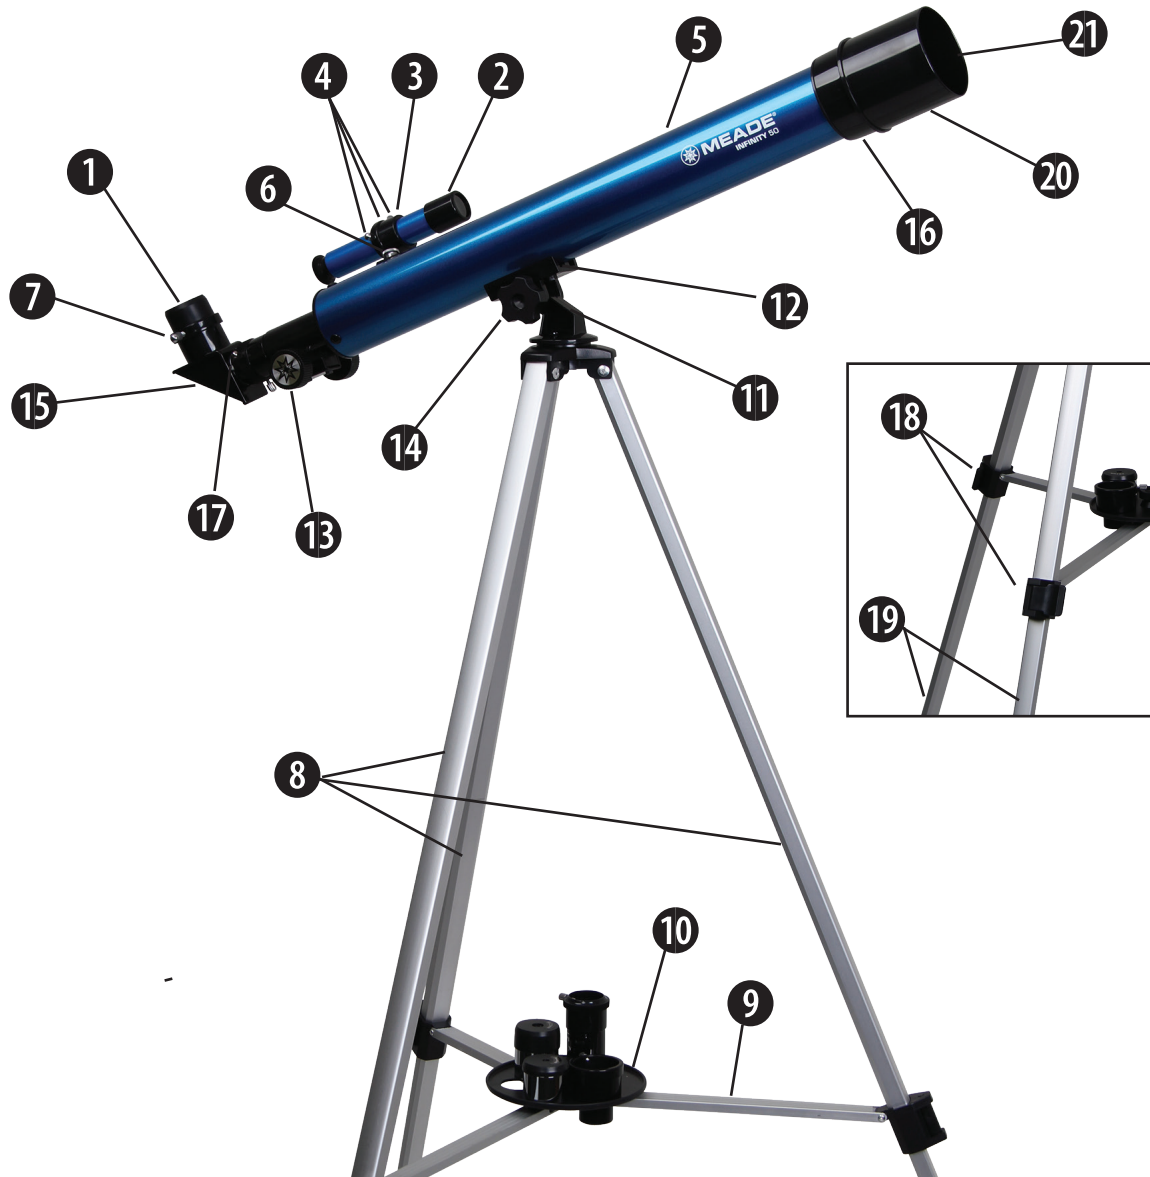

Fig. 1: Meade 50AZ-P 2" Alt-azimuth Refracting Telescope
STANDARD EQUIPMENT (Refer to Fig. 1)
2. Spread the three tripod legs (8, Fig. 1) evenly apart and attach the accessory tray (10, Fig. 1) in the hole at the center of the leg brace supports (9, Fig. 1) using the provided attaching screw.
3. Attach the optical tube to the mount by placing the optical tube mounting plate (12, Fig. 1) over the top of the mount until the mounting holes line up. Place the optical-tube-to-mount lock knob (14, Fig. 1) through the mounting holes and tighten until snug.
4. Attach the viewfinder (2, Fig. 1) and viewfinder bracket (3, Fig. 1) by un-threading the two viewfinder bracket attaching nuts (6, Fig. 1) and placing the viewfinder bracket (with the eyepiece-end of the viewfinder facing the focuser of the telescope) over the two protruding threaded studs. Then replace the two viewfinder bracket attaching nuts to secure the bracket to the optical tube.
5. Insert the diagonal mirror (15, Fig. 1) into the eyepiece holder (17, Fig. 1) and the H 20mm eyepiece (1, Fig. 1) into the diagonal mirror. Secure each in place with a moderate tightening of their respective thumbscrews (7 & 17, Fig. 1).
6. Extend the sliding leg extension (19, Fig. 1) portion of the tripod to the desired length on all three legs by opening the tripod leg lock latch (18, Fig. 1) and extending the leg. When you achieve the desired height, lock the tripod leg by closing the locking latch.
The telescope can tilt just over 90° in altitude (the up-and-down movement) and rotate 360° in azimuth (the side-to-side movement), hence the telescope mount is called "Alt-azimuth". The Alt-azimuth mount can be locked only in altitude by tightening the optical-tube-to-mount locking knob (14 Fig 1), the azimuth movement is always free.
To move the telescope on the mount, slightly loosen the mount locking knob (14, Fig. 1). Move the telescope in altitude and/or azimuth to the desired target. When finished, tighten the mount lock knob (14, Fig. 1). Tip: By keeping the mount lock knob slightly tight, the telescope can still be moved in altitude without running the risk of having the telescope “flip” in the up or down movement.
The 5 x 24mm viewfinder (2, Fig. 1) is a low-power, wide-field sighting device that, once aligned, will allow you to point the telescope with greater precision. Take note that when you look through the viewfinder, you will see a cross-hair with images that will be upside-down; this is normal.
1. Remove the lens cap (21, Fig. 1) of the optical tube assembly. Place the H 20mm eyepiece in the diagonal mirror and point the optical tube assembly (5, Fig. 1) at some well-defined, distant land object (e.g. the top of a distant telephone pole). Note: Images are either backwards or upside-down, depending on the rotation angle of the diagonal mirror; this is normal. It is recommended that you choose an object that is as distant as possible, so that the viewfinder alignment will be accurate enough to point the telescope at individual planets and stars during astronomical observations.
2. Look through the viewfinder (2, Fig. 1) and tighten or loosen, as appropriate, the viewfinder bracket’s three collimation screws (4, Fig. 1), until the cross-hairs of the viewfinder are precisely centered on the same object already centered in the telescope’s H 20mm eyepiece. When finished, tighten the viewfinder’s three collimation screws to a firm feel so that it remains in alignment. It is often easier to tighten one collimation screw while simultaneously loosening another. This will keep the viewfinder tight in its holder.
2. To center an object in the main telescope, first use the aligned viewfinder to find the object you wish to observe. If necessary, slightly loosen the optical-tube-to-mount locking knob (14, Fig. 1), to re-position the telescope so that the desired object can be centered in the viewfinder. When the object is centered in the viewfinder, it should then, also, be somewhere in the main telescope’s field of view. Next, using the 20mm eyepiece, center the object in the main telescope’s field of view, and sharply focus the image by turning the focus knob (13, Fig. 1).
To use the 1.5X erecting eyepiece, remove the diagonal mirror and place the 1.5X erecting eyepiece directly into the eyepiece holder (17, Fig 1) and secure with its thumbscrew. Next attach the included .965" to 1.25" adapter to the erecting eyepiece and secure with the thumbscrew. Lastly, attach the H20 eyepiece and secure. Do not use the diagonal mirror (15, Fig 1) and 1.5X erecting eyepiece together or the image will not fully corrected.
To use the 2x Barlow lens, remove the diagonal mirror from the eyepiece holder (17, Fig. 1). Insert the 2x Barlow lens and secure with the thumbscrew. Next insert the diagonal mirror(15, Fig.1) and eyepiece (1, Fig. 1). Refocus until the image is sharp.
As with any quality optical instrument, lens surfaces should be cleaned as infrequently as possible. A little dust on the surface of the objective lens causes negligible degradation of image quality and should not be considered reason to “clean” the lens. When lens cleaning does become necessary, use a camel’s hair brush or compressed air to gently remove dust. Wipe only with a soft, clean cloth, applying as little pressure as possible to avoid scratching glass surfaces. Note: Remove the dew shield/lens shade (20, Fig. 1) to access the objective lens (16, Fig. 1).